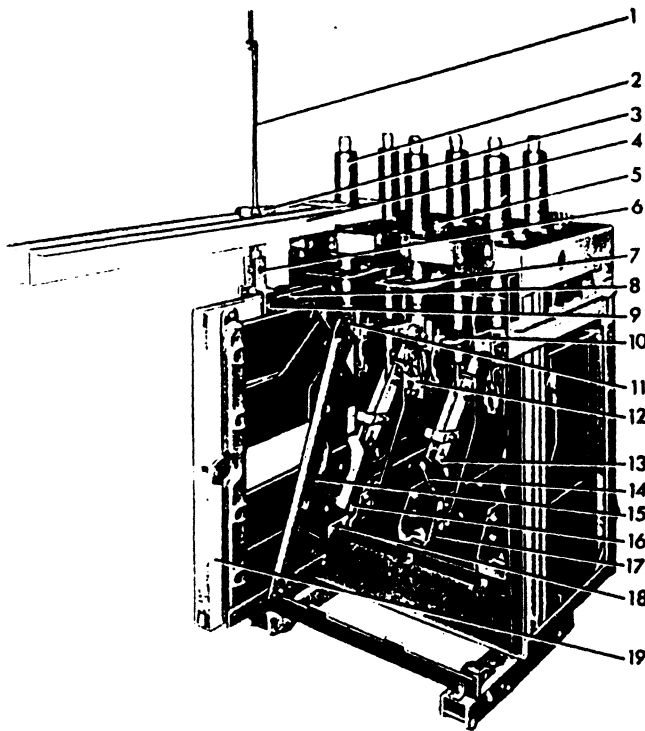

Figure 16. (8034809) Interrupter Removal
Refer to Figure 16. An arc chute lifter is normally furnished with the metal-clad switchgear for use in removing and replacing the interrupters of the AM-7.2-500 breakers. When the lifter is not available an overhead crane or portable hoist may be used. The arc chute lifter is assembled to the top plate of the breaker as shown in the reference figure using the bolt (5) located between the front and rear bushings. Before assembling the lifter on the breaker it is necessary to remove the box barriers.
Tighten the supporting bolts (11 and 16) Figure 16. These bolts serve as both the electrical and mechanical connections between the bushings and the arc runners within the interrupter. Check that the movable arcing contact (14) passes between the probes on the upper arc runner (5) Figure 19 without touching.